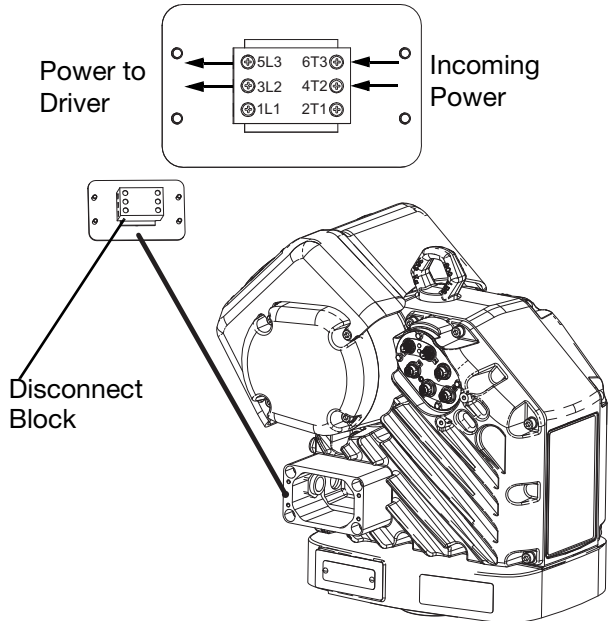

Fig. 5: Terminal Connections
NOTE: Inside the junction box, power wires to the driver are connected to terminals 3L2 and 5L3 on the disconnect block. Refer to **Fig. 5** for the terminal locations.
- Refer to **Fig. 5** and connect the wires from the power cord into terminals 4T2 and 6T3. Each wire can be connected to either terminal.